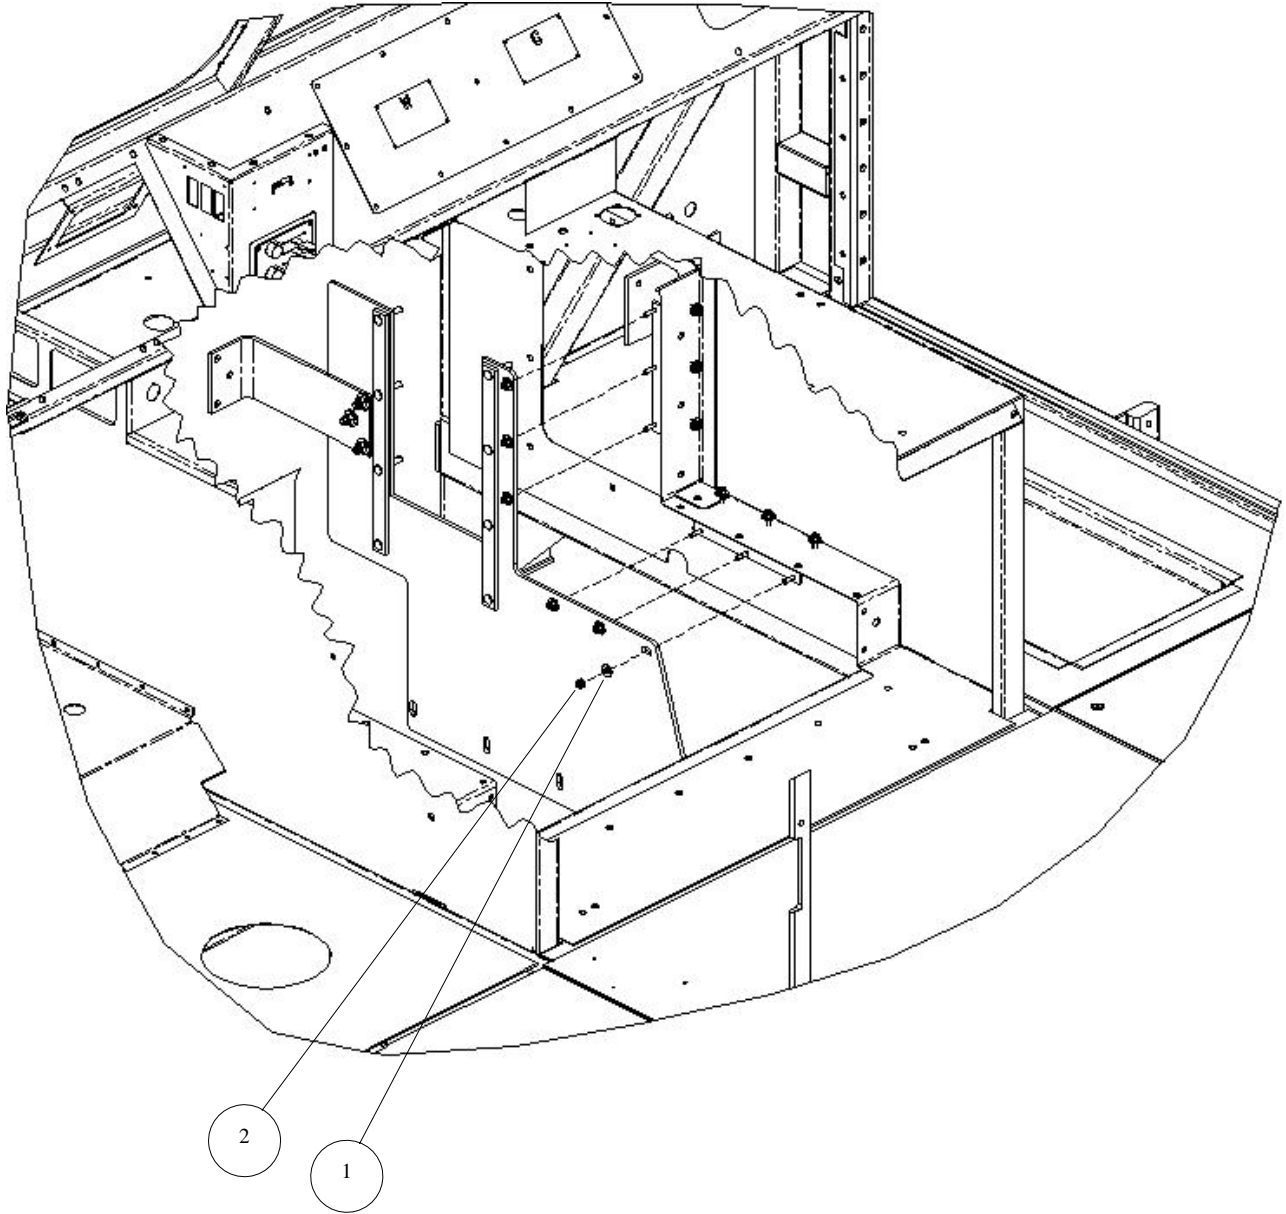

Figure 3-45. Doghouse Right Panel Assembly Installation.
7. Install doghouse right panel assembly as follows (see Figure 3-45):
- a. Install doghouse right panel assembly into doghouse and secure to doghouse inner brackets with six flat washers (1) and locknuts (2). Torque locknuts to 7 lb-ft.